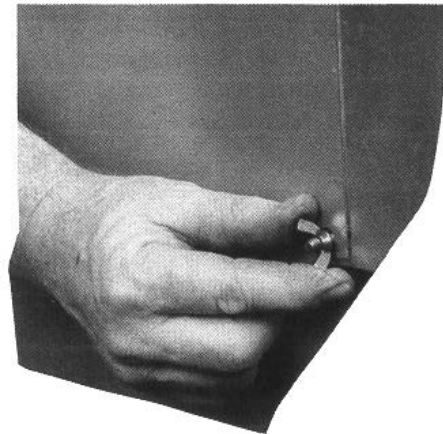

Figure 20: Securing Draft Hood to Canopy
3. Secure Rear Draft Hood to Canopy with wing nuts provided. See Figure 20.